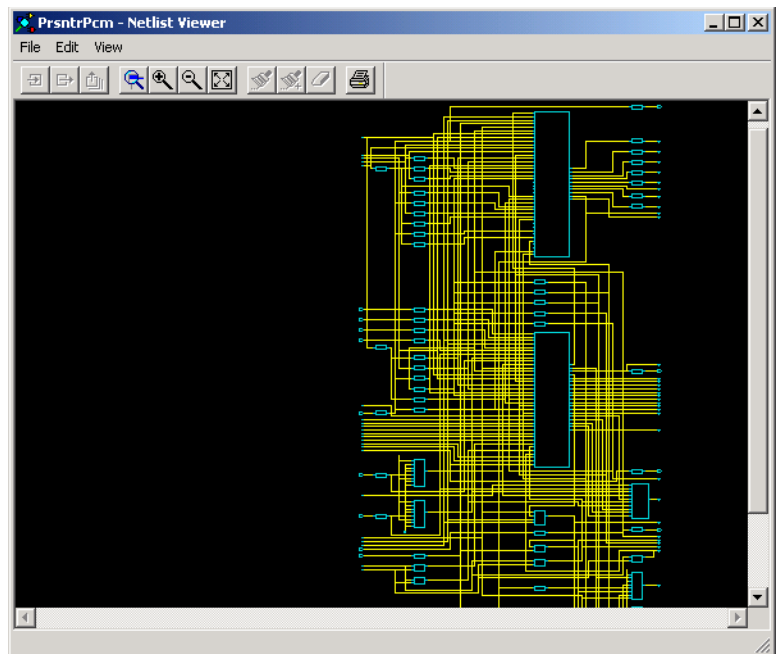

Figure 3-3. Starting Netlist Viewer
1. **From Designer, start Netlist Viewer.** Click *Netlist Viewer* in the Design Flow window. The Netlist Viewer starts and displays your netlist, as shown in Figure 3-3.